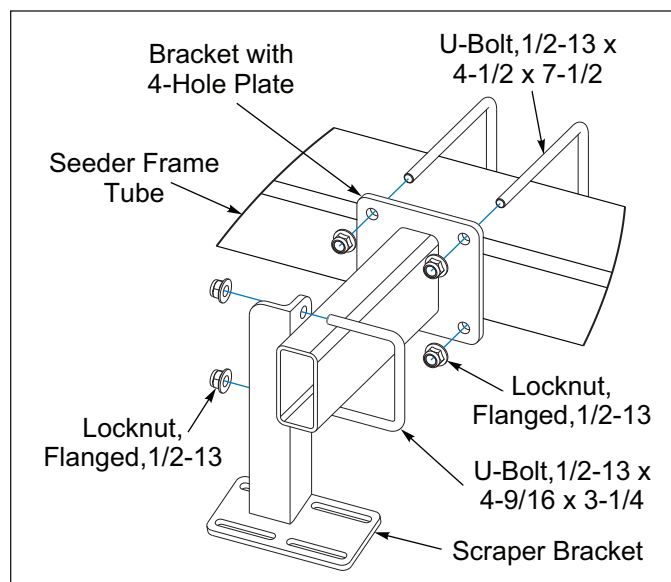

Figure 2-39: Scraper Brackets
3. Attach the Scraper Brackets to the Bracket Tube with a 1/2-13 x 4-9/16 x 3-1/4 U-Bolt and Flange Locknuts. **Do Not** tighten at this time. **See Figure 2-39.**